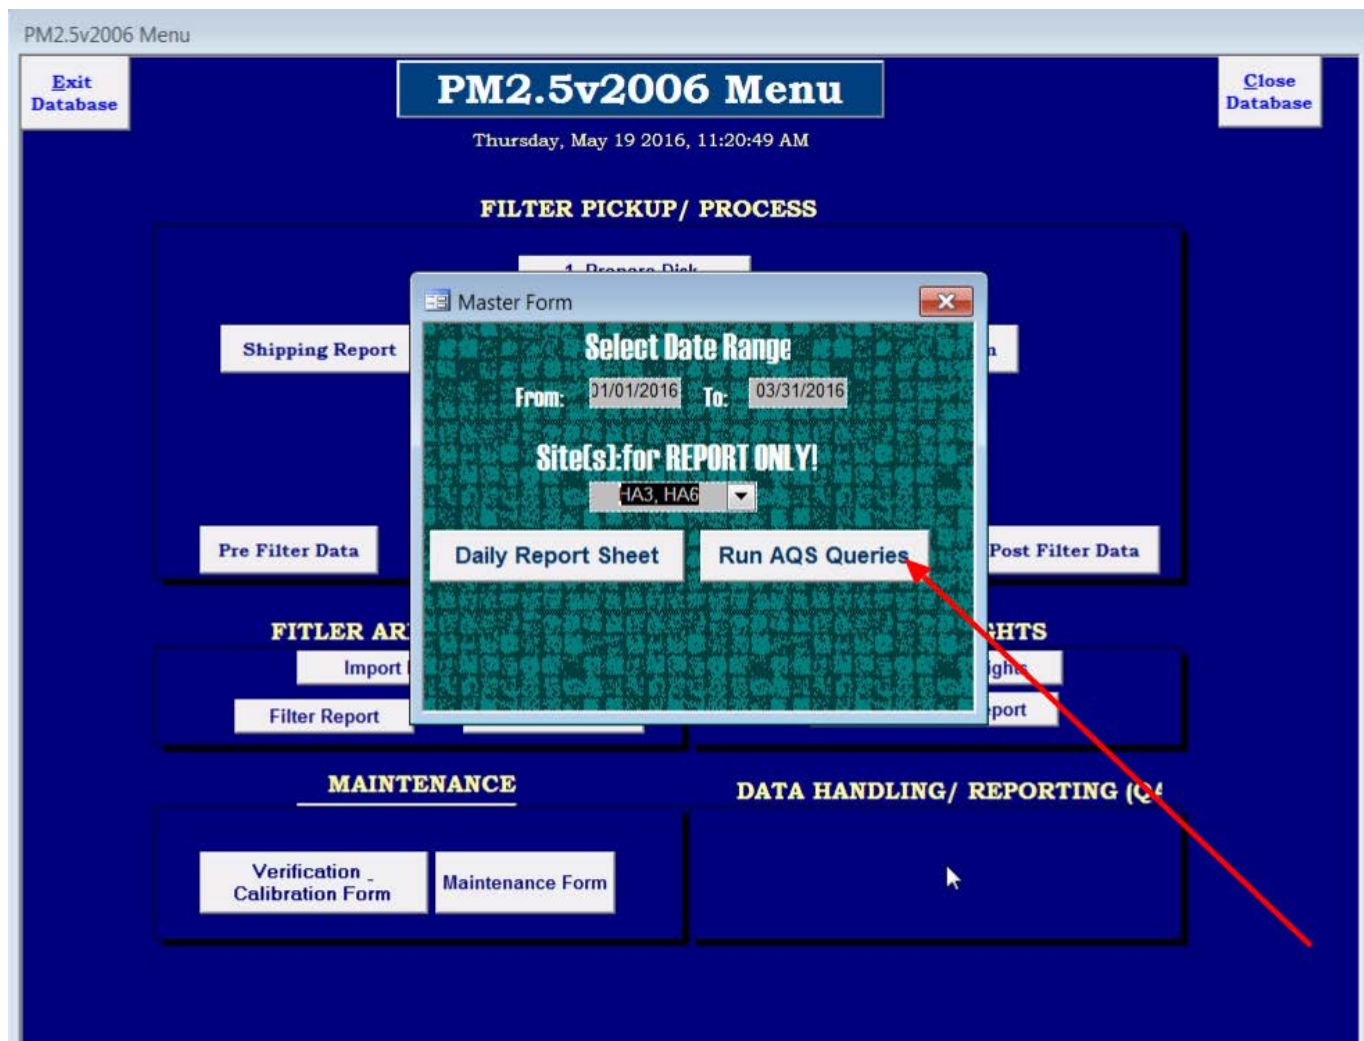

Figure 40: Run AQS Queries Button
6.6.3.1 Open Access (S:\PM_{2.5}\DATABASE\PM_{2.5}V2006) Press “Run AQS Query” (see Figure 40).